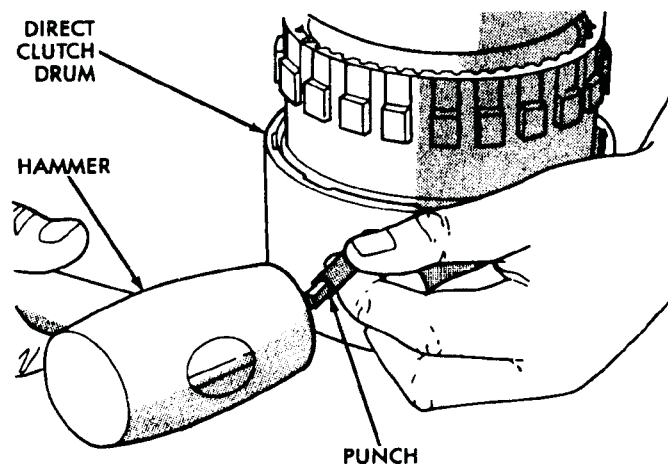

Fig. 29 Marking Direct Clutch Drum And Annulus Gear For Assembly Alignment
(19) Mark position of annulus gear and direct clutch drum for assembly alignment reference (Fig. 29). Use small center punch or scribe to make alignment marks.